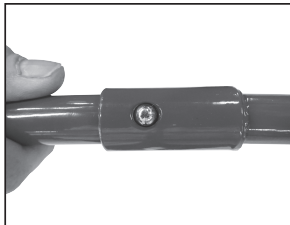

fig 2.
2. Ensure the hole in the Lower handle aligns with the retaining clip in the Upper handle, push until you can hear a CLICK (fig.2).